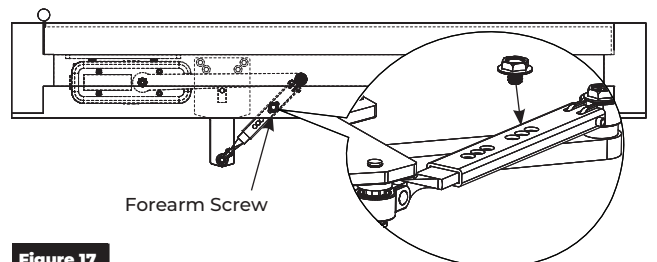

Figure 17
6. Close the door. Install and tighten the forearm screw in the second hole from the end of the arm as shown. (Figure 17)